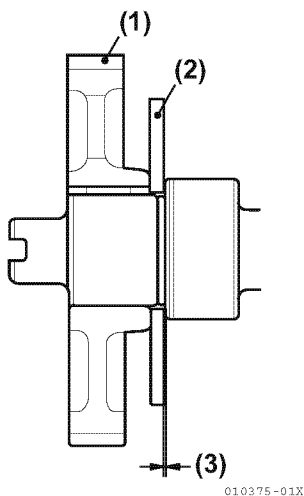

Figure 5-142
17. Measure the camshaft side gap (Figure 5-142, (3)). Ensure the camshaft rotates smoothly.